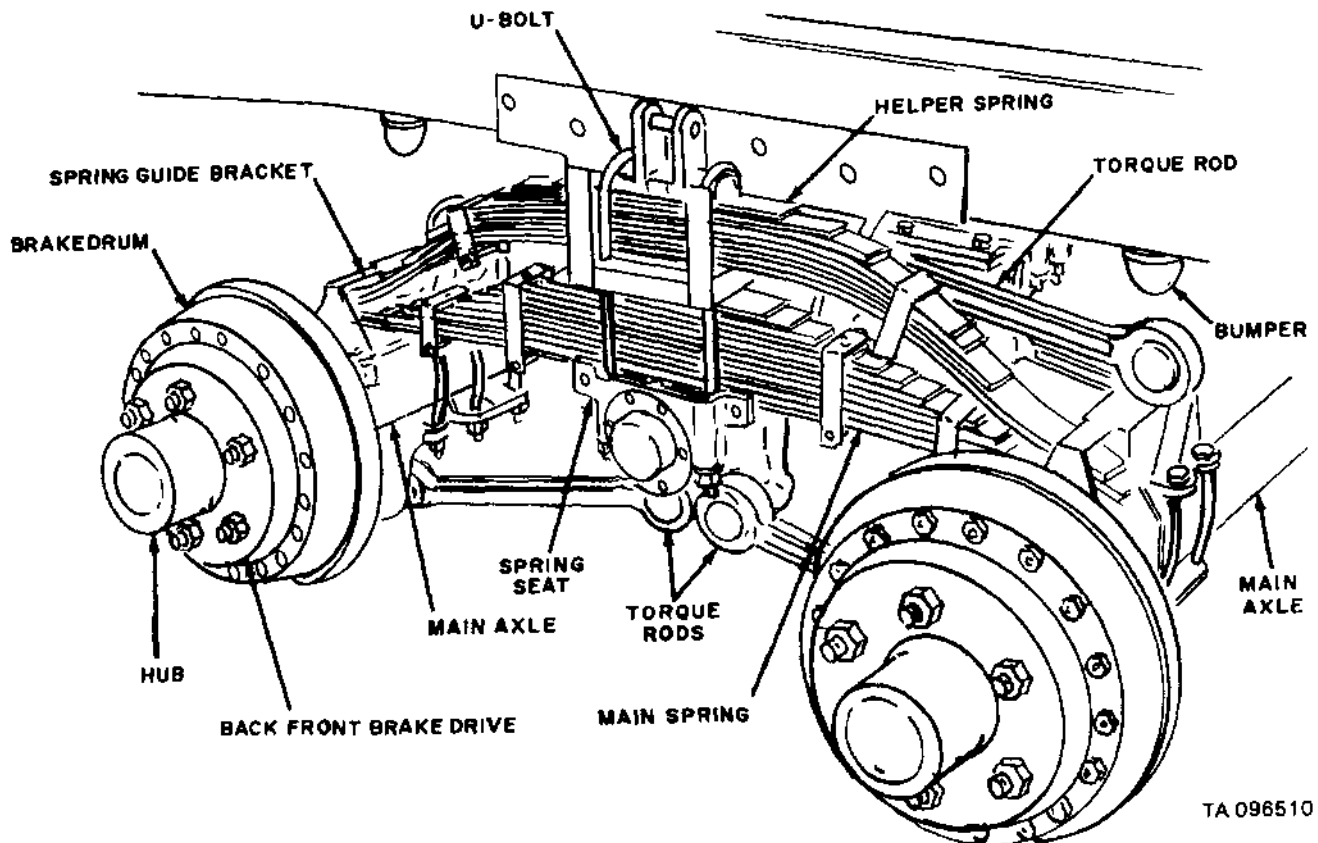

Figure 4-37. Tandem suspension system, XM574, XM574E1, XM654, XM680, XM680E1, XM738, XM739, XM739E1, XM822, XM823, XM824
- (1) The XM574, XM574E1, XM654, XM680, XM680E1, XM738, XM739, XM739E1, XM822, XM823, and XM824 semitrailers are equipped with tandem suspension (fig. 4-37).